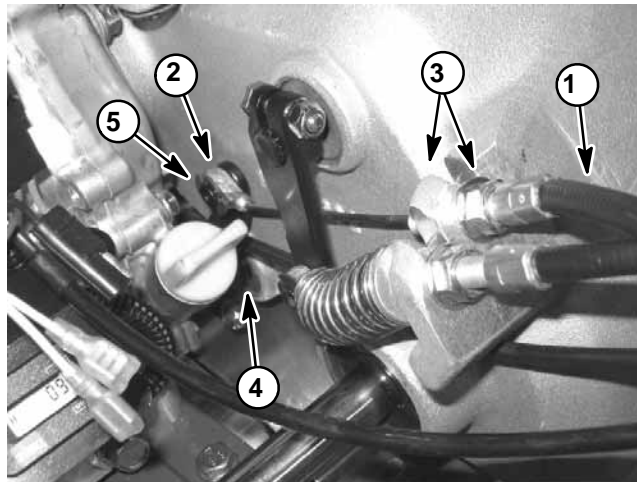

Figure 4
3. Remove parking brake cable from the gearbox as follows (Fig. 4):
3. Route brake cable to the gearbox assembly. Install brake cable to the gearbox and gearbox brake lever as follows (Fig. 4):